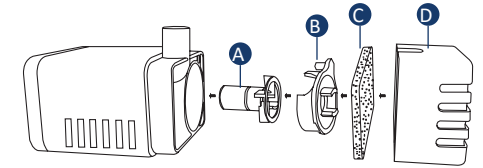

Figure 1
**Cleaning the pump:** To clean the pump, first pull the two case halves apart (Figure 1). This can be achieved by pulling them carefully by hand. After